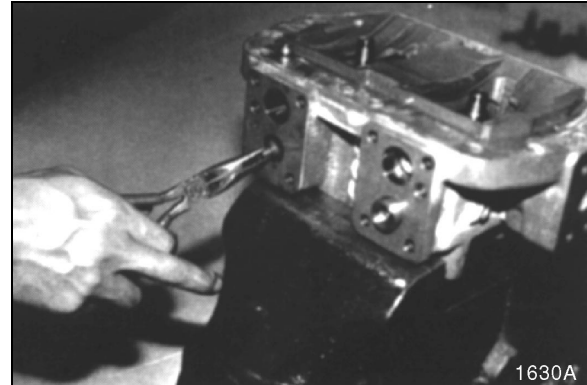

Figure 37
9. Remove spring seat. See Figure 37.